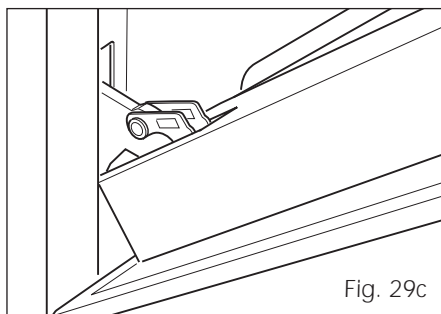
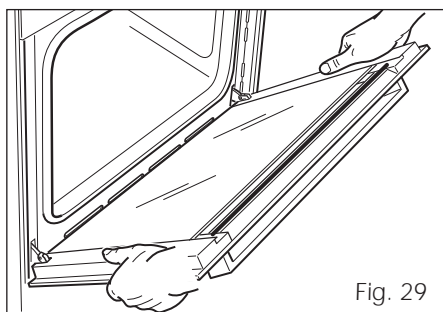

Fig. 29c
Fig. 29
- Hold the door as shown in fig. 29.
- Gently close the door (fig. 29) until left and right hinge levers **A** are hooked to part **B** of the door (fig. 29c).